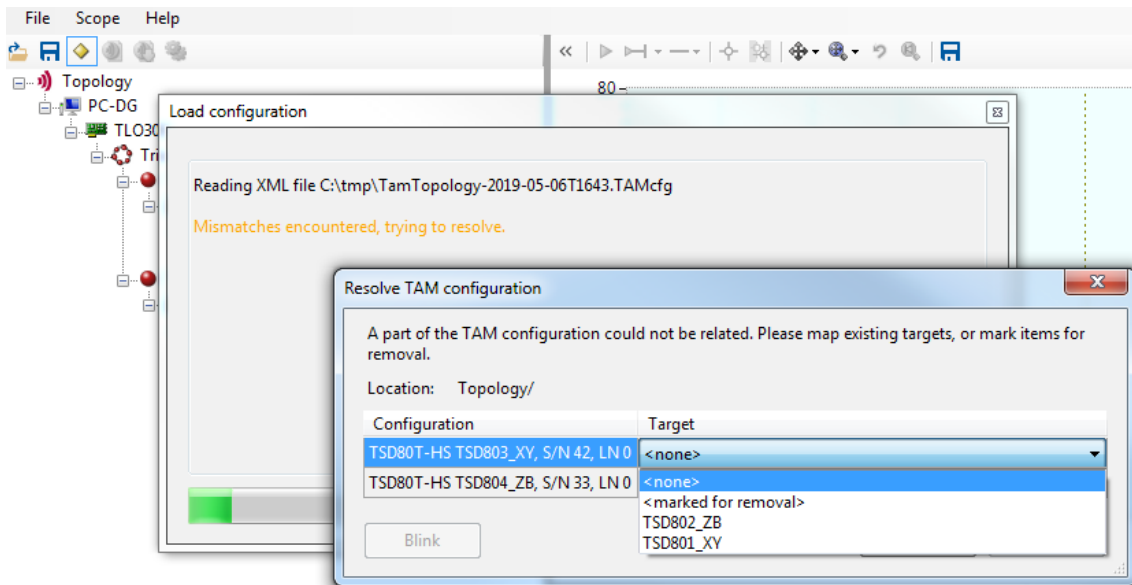

Figure 23: Resolve configuration mismatch.
- If at this point there are still devices which are not assigned, the **Resolve TAM configuration** dialog is opened (Figure 23).